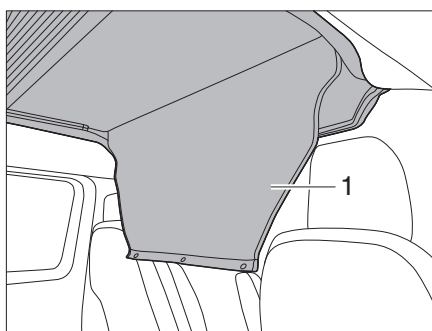

Fig. 50 Unrolling the entrance cover
- Unroll the entrance cover (Fig. 50,1).
- Close the entrance cover (Fig. 50,1) with snap fasteners.